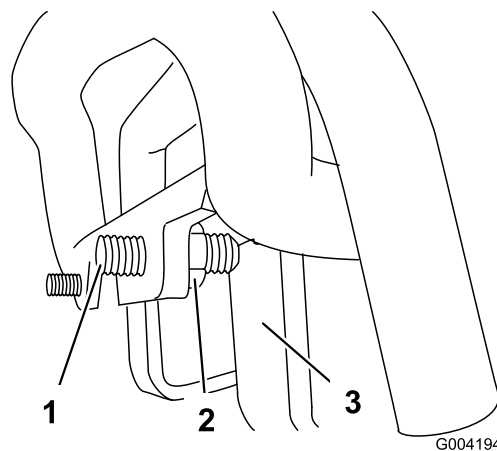

Figure 47
3. If the traction unit veers to the **left**, loosen the **right** jam nut and adjust the tracking set screw on the front of the traction control (Figure 47).
4. If the traction unit veers to the **right**, loosen the **left** jam nut and adjust the tracking set screw on the front of the traction control (Figure 47).